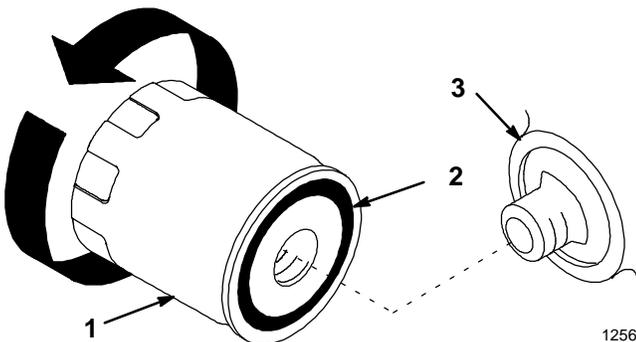

Figure 32
- Change oil filter. (Fig. 32).
2. Remove the old filter and wipe the filter adapter (Fig. 32) gasket surface.
3. Apply a thin coat of new oil to the rubber gasket on the replacement filter (Fig. 32).
4. Install the replacement oil filter to the filter adapter. Turn the oil filter clockwise until the rubber gasket contacts the filter adapter, then tighten the filter an additional 1/2 turn (Fig. 32).